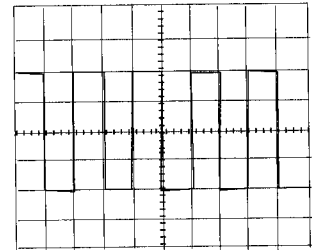

Figure 4-3
- 5) Set the AC-GND-DC switch to the AC state. A waveform as shown in the figure 4-3 Will be displayed on the CRT screen.
- 8) Adjust the ▲▼ POSITION and ◀▶ POSITION controls in appropriate positions so that the displayed waveform is aligned with the graticule and voltage (Vp-p) and period (T) can be read conveniently.